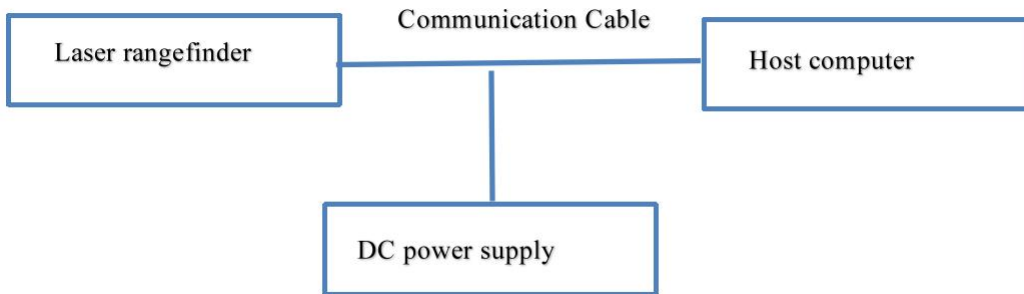

Figure 4 Connection diagram
- Before starting up, according to the interface requirements of 1.4, connect the laser range finder, debugging cable, DC power supply and host computer as shown in Figure 4 (pay attention to the connector direction);